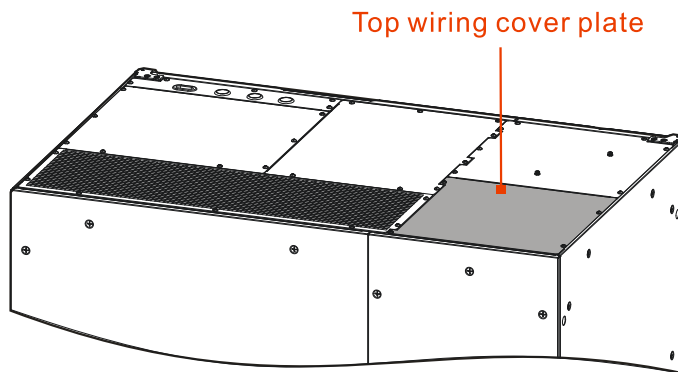

Figure3-27 Top wiring cover plate position of PS500KVA、PS600KVA
- Step 2 Unscrew the fasten bolts of top wiring cover plate (as shown in Figure3-27) by screwdriver and take them down.